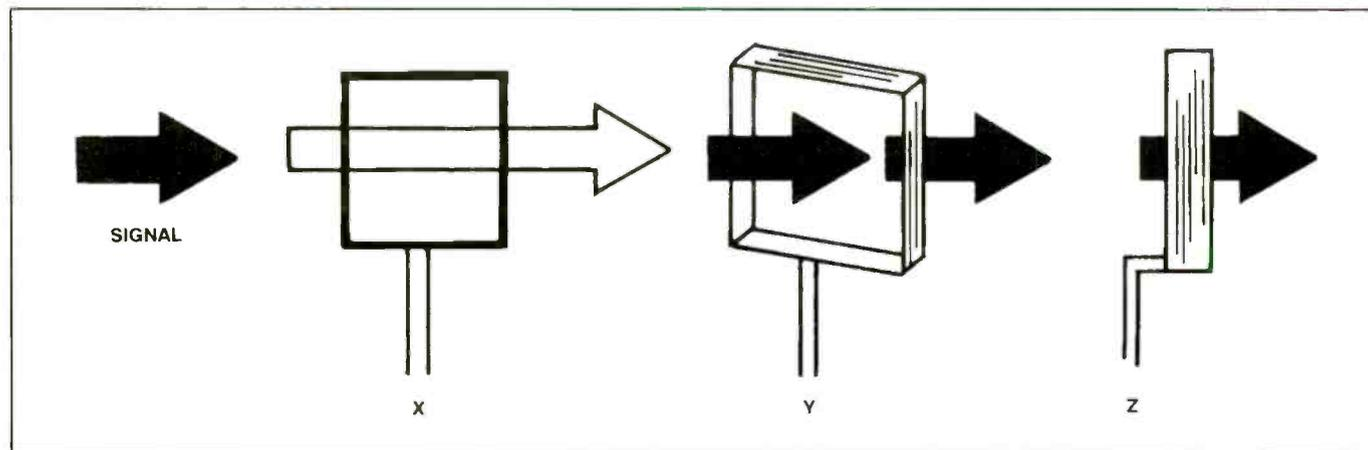

Figure 1. Reception of this loop antenna will be maximum when the signal that strikes is in the direction shown in X, Y or Z.
2. Refer to the loop antenna in Figure 1. The direction of maximum reception is marked with